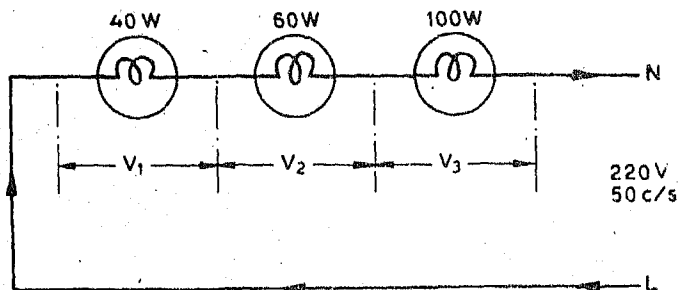

Fig.10.6 Voltage differs across different resistors in series connection
- (iii) Voltage is different across different wattage lamps (See Fig. 10.6).